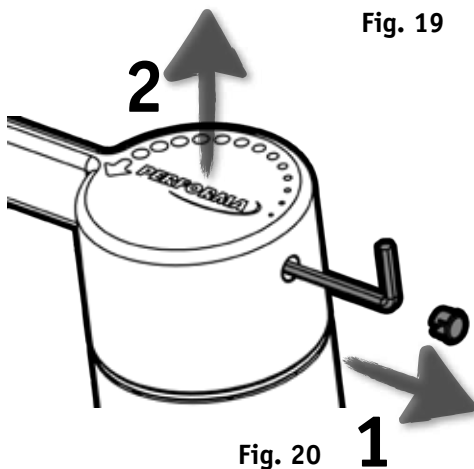

Fig. 20 **1**
- 4) Remove the **PLASTIC CAP 8** (*if applicable*) and loosen the **HANDLE SCREW 9** from the rear of the handle using 3mm ALLEN KEY and remove the **HANDLE 1** (**Fig. 20**)